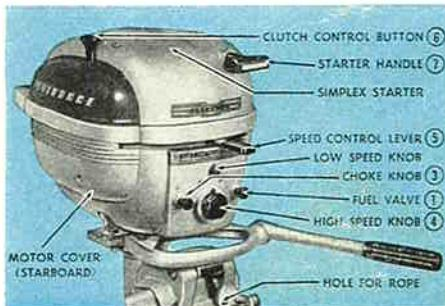

Fig. 3
CAUTION: It is "good insurance" to tie motor to boat with stout rope so that if motor becomes loose accidentally, rope will prevent loss overboard. Rope should be fastened to hole in stern bracket. (Fig. 3).
1. Open fuel valve by turning Fuel Valve Knob located on port side of control panel (Fig. 3) counter-clockwise as far as possible.
3. Pull out Choke Knob located at starboard side of control panel (Fig. 3) all the way.
4. Turn High Speed Knob (large knob in center of control panel) (Fig. 3) to "RICH" position.
5. Set Speed Control Lever (Fig. 3) to "START NEUTRAL" position.
6. Pull up Clutch Control Button located at starboard side of motor on top of starter housing. (Fig. 3). This sets clutch to "NEUTRAL" position.
- After motor starts push in Choke Knob (Fig. 3) and push Clutch Control Button down. (Fig. 3) This engages clutch.
TO "START IN GEAR" NOTE: Clutch Control Button (Fig. 3) must be down before Speed Control Lever can be placed to "START IN GEAR"; otherwise above instructions apply.
STARTING WARM MOTOR Do not disturb High Speed Knob (Fig. 3) otherwise above instructions apply.
REVERSE The Fleetwin motor permits full 360° steering. Reversing is accomplished by turning motor one-half turn. It is advisable to slow the motor down to "START NEUTRAL" position before attempting to swing motor into reverse. The clutch may also be disengaged by pulling up on Clutch Control Button (Fig. 3) if so desired. A special lock arrangement built into the drive housing locks the motor against tilting while reversing. Use extra care while running in reverse, so as not to strike any obstruction, thus avoiding possible damage to lower unit parts, as tilting feature functions only in "FORWARD" position.
NEUTRAL CLUTCH: The purpose of the "NEUTRAL CLUTCH" is to dis-engage the motor power from the propeller, which is done by pulling up on the Clutch Control Button. (Fig. 3) This permits easier and safer starting of motor and aids in the maneuverability of the boat in confined or crowded places. Engagement is accomplished by pressing the CLUTCH CONTROL BUTTON down. This shifting of clutch can be done only with the speed control lever at "START NEUTRAL" or slower positions.